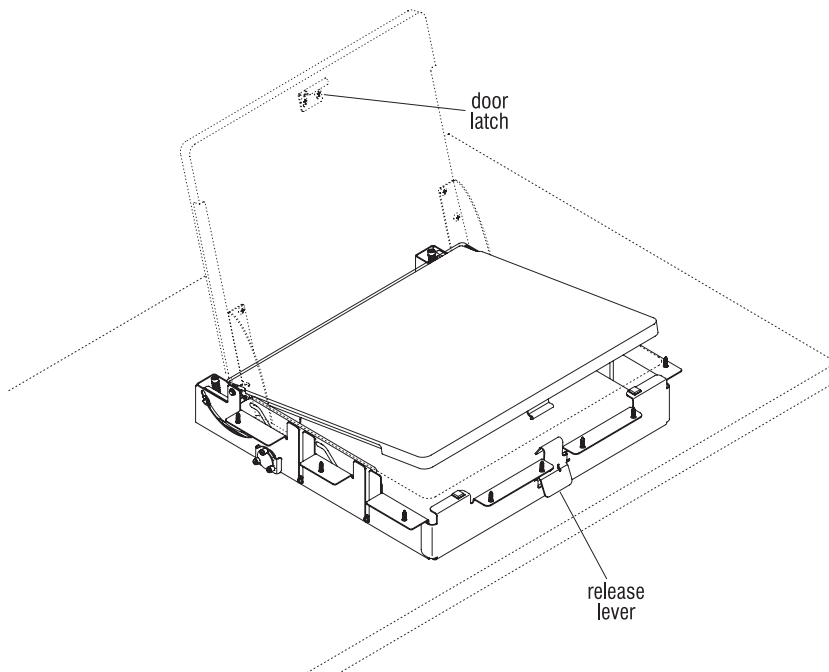

Figure 3 - Release Lever Unit
1. Open the Laptop Garage door by pressing the release lever located under the worksurface near the center front of the unit. Allow the door front to open approximately 2" and grasp the open edge of the door and rotate to the open position. To close the unit, grasp the top of the top or sides of the door and rotate closed until the door is open approximately 2". Firmly push down on the front center of door until the door latch engages the release lever (Figure 3).